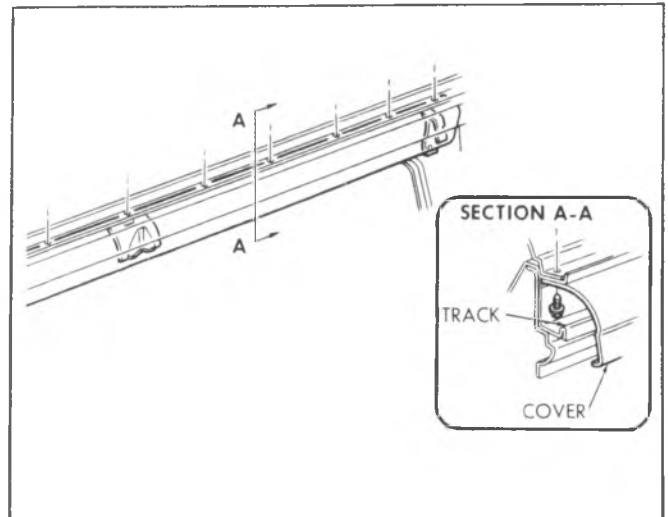

Fig. 2D-122--Rear Track Cover
1. Remove the hinge cover and rear track cover. See figures 2D-116 and 2D-122.